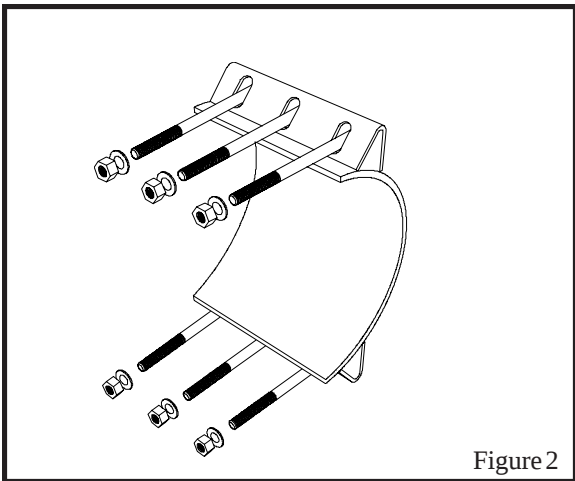

Figure 2
- Disassemble nut & bolts and remove outlet half of Tapping Sleeve. (See Figure 2)